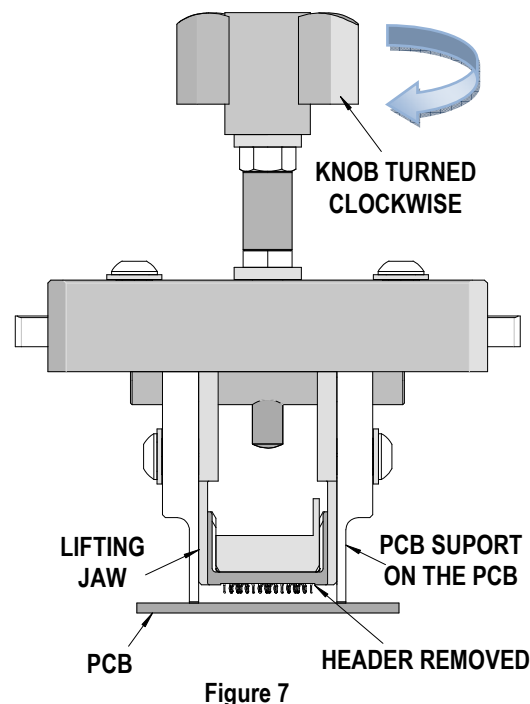

Figure 7
5. Turn the Lift Screw Knob clockwise (CW) until the PCB Supports contact the printed circuit board.
6. Continue turning the Lift Screw Knob clockwise (CW) until the backplane header is removed from the printed circuit board. See Figure 7.